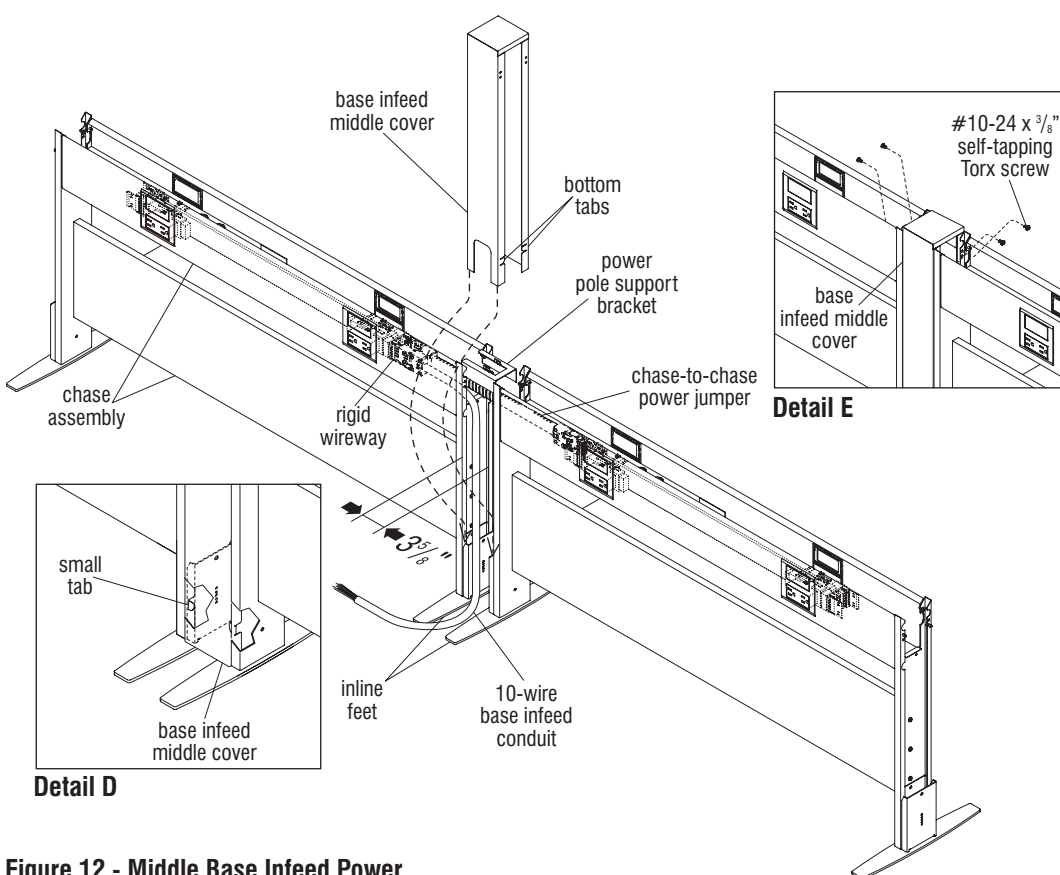

Figure 12 - Middle Base Infeed Power
Important: Per the space-planning layout, a location specified for middle power infeed will be between two inline chase units that each have their own inline foot. The chase units will have a 3 5/8" spacing between their chase legs when the base infeed middle cover is installed (Figure 12).
3. Move the two inline chase units together to be 3 5/8" apart between chase legs as illustrated (Figure 12).
4. Take the base infeed middle cover in hand, orient as illustrated and **bend the four bottom tabs**, two at each side, inward 90°. The bent tabs will help align the cover at the bottom when it is installed (Detail D). Take care to assure that the two chase units are 3 5/8" apart between chase legs, then orient the base infeed middle cover as illustrated and slide the cover down between the chase units and engage the four bent tabs with the tops of the two inline feet. Press the cover down until it meets the top of the feet while allowing the base feed to exit out the opening (Figure 12).